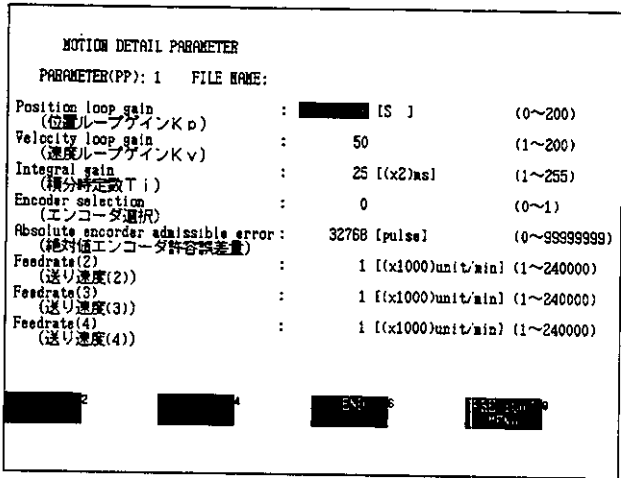

Figure 6.323
- 1) Display the Detailed Parameters Screen shown in *Figure 6.323*.